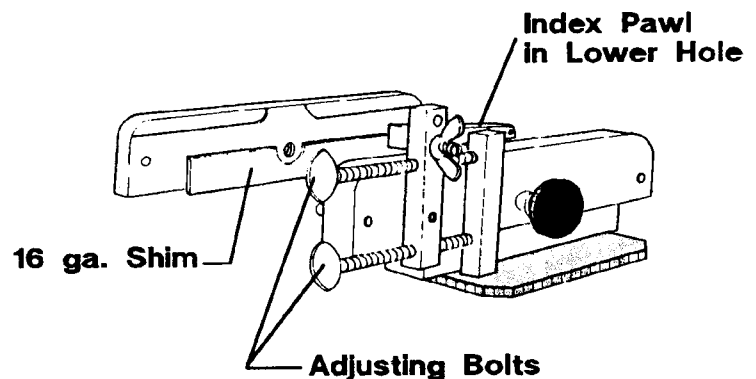

FIG 2-17
5. Now that the first tooth is ground properly, you may index off of this tooth to sharpen the remaining teeth. Flip the index pawl into position in front of the tooth just sharpened. The index pawl should be in the lower pivot hole (See Figure 2-17). The upper hole is used when sharpening chain saw blades. Adjust the thumb bolt adjusters so that when the sharpened tooth is pushed against the pin, the grinding wheel lightly grinds the second tooth as it did the first.